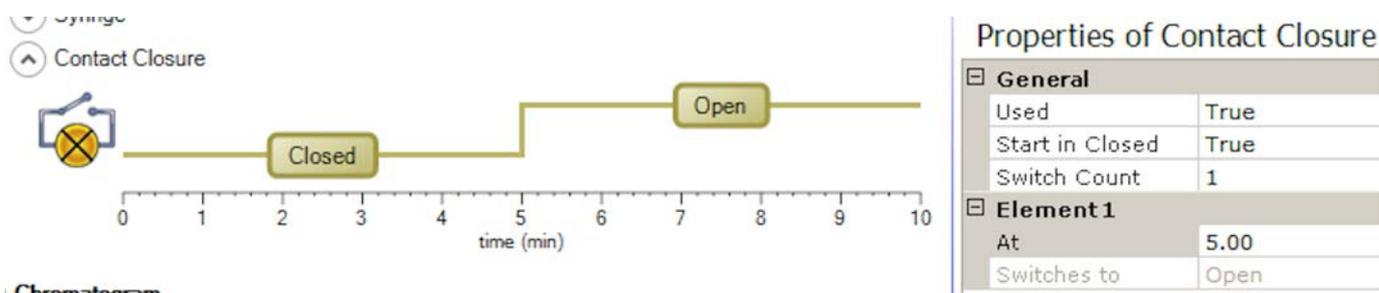

Figure 3-13. Contact closure
The Contact Closure item shows a graphic representation of the contact closure activities during the active acquisition. See Figure 3-13.
- Right-click in the pane to display the shortcut menu. Choose **Activate**. The gray color **Not active** changes to the green color **Closed**. See Figure 3-13.